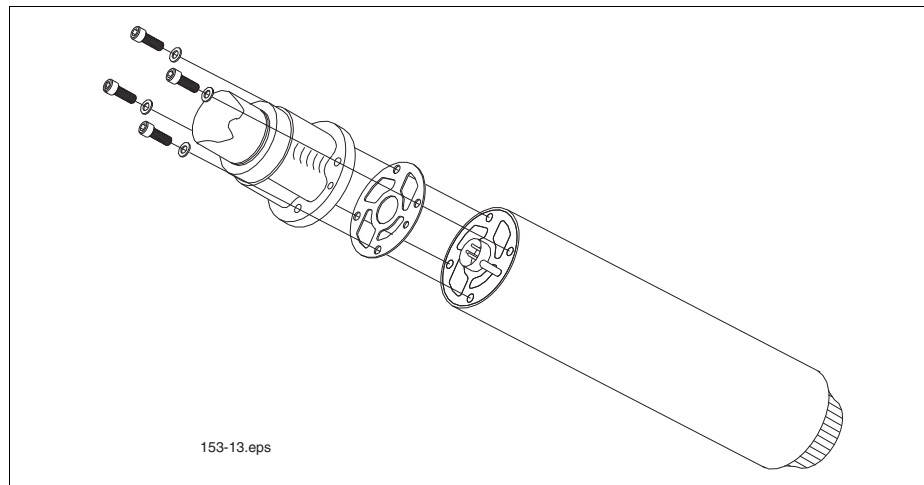

Figure 30. Replacing The gasket
4. Replace the old gasket with a new one provided. Place the new gasket on the new UMP so that all the holes align (see Figure 30).